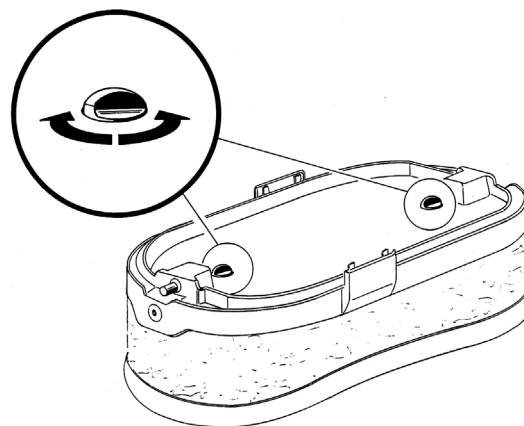

figure 2
- 9 It is possible to lock the cover by rotating the two keys located on its lower part. (see figure 2)